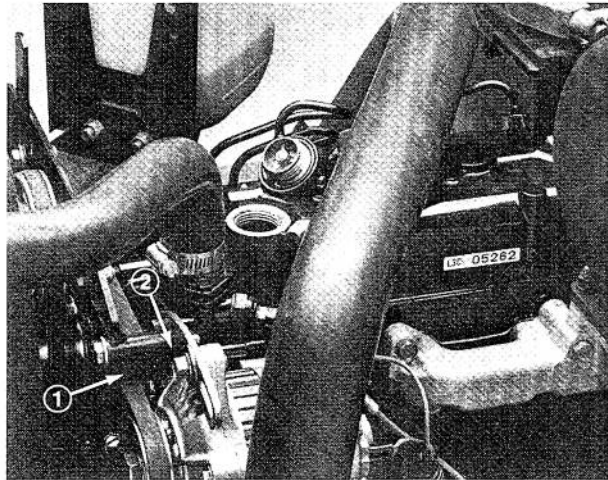

Figure 39
3. Loosen bolt securing brace to engine and bolt securing alternator to brace (Fig. 39).
2. Loosen bolts securing brace to engine and alternator to brace (Fig. 39).